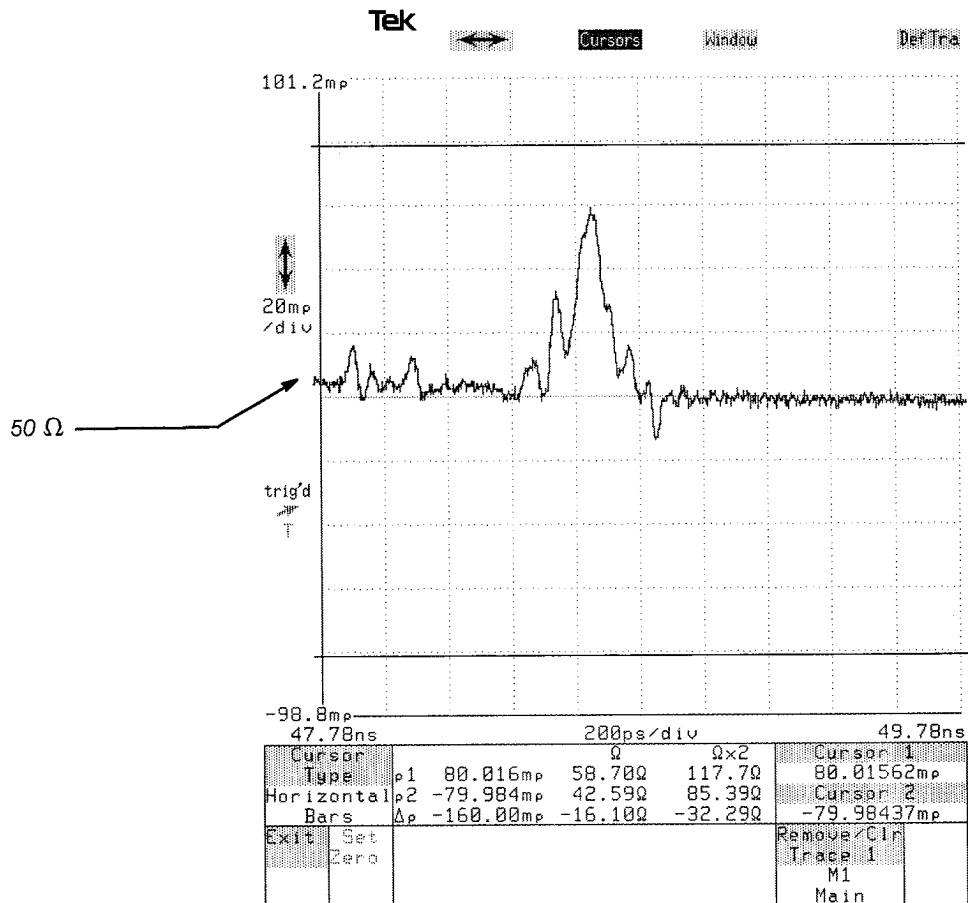

Figure 15 — Foot Switch Pressed
Step 5: Press the foot switch and use the vertical size and position knobs to center the display with vertical size set to 20 mV/div (see Fig. 15).